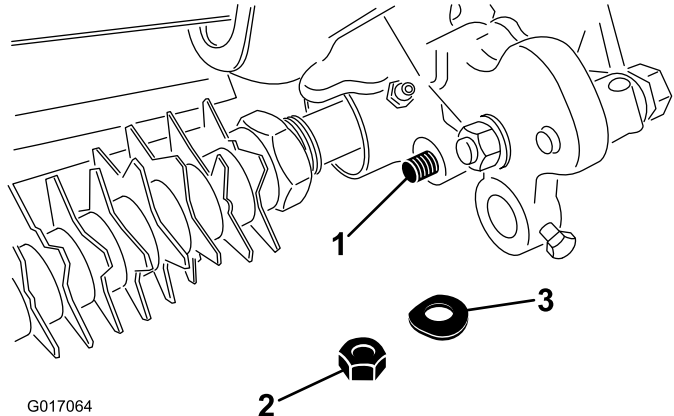

Figure 11
23. Secure the adjuster arm assembly rod end to the groomer drive assembly with a Belleville washer and locknut (Figure 11).
28. Secure the adjuster arm assembly rod end to the groomer drive assembly with a Belleville washer and locknut (Figure 11).